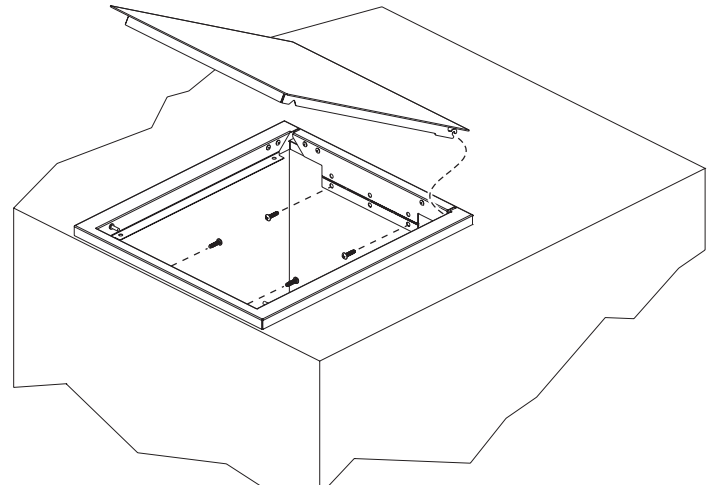

Figure 3
3. Remove lid and place the DPA152 surround into the enclosure and check for proper hole alignment. Secure the DPA 152 surround the enclosure with four #8x3/4" screws (not supplied). See Figure 3.